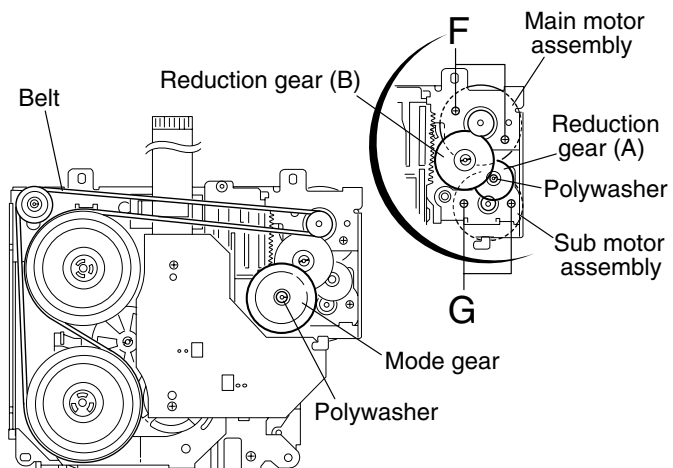

Fig.42
■ Removing the main motor assembly / sub motor assembly (See Fig.42 to 44)
3. Pull out the reduction gear (B).
4. Remove the polywasher and pull out the reduction gear (A).